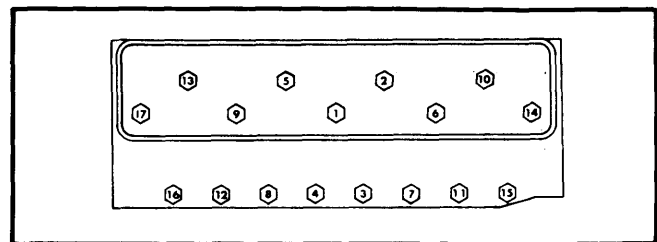

Fig. 2 Cylinder Head Tightening Sequence
**Installation** - Clean gasket surfaces on block and cylinder heads. Clean head bolt threads in block (dirt will affect torque). Use sealer on both sides of steel gaskets. Place gaskets in position on block with bead up. Install cylinder heads and bolts (with sealing compound on threads). Tighten in sequence See Fig. 2.